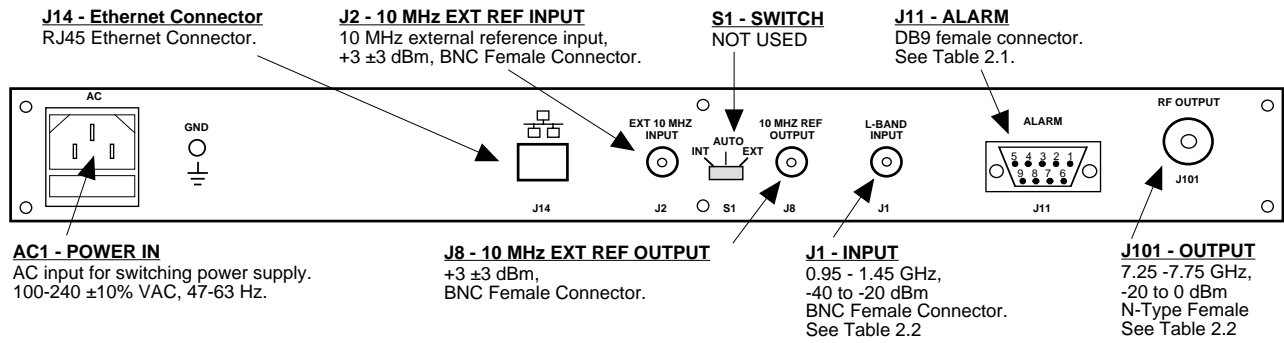

FIGURE 2.1 3115-72 Rear Panel I/O's
Figure 2.1 shows the input and output connectors on the rear panel.
1. Connect a -40 dBm to -20 dBm signal to L-Band IN, J1 (Figure 2.1).